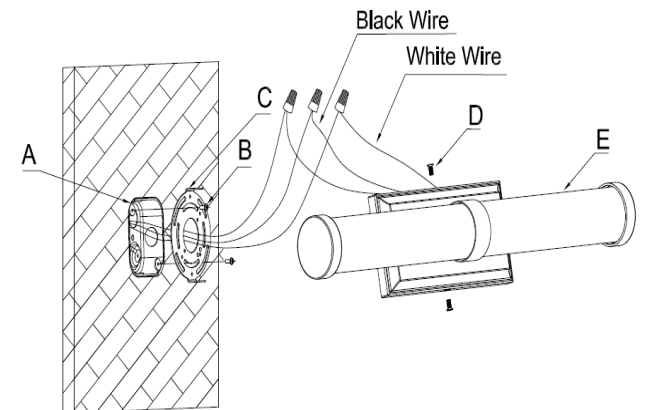

Fig.2
CONNECTING THE WIRES (FIG. 2)
5. At this point, connect the electrical wires as shown in Fig. 2, making sure that all wire connectors are secured. If your outlet has a ground wire (green or bare copper), connect the fixtures ground wire to it. Otherwise, connect the fixture ground wire directly to the mounting plate (C) using the green screw provided. After wires are connected, tuck them carefully inside the junction box.